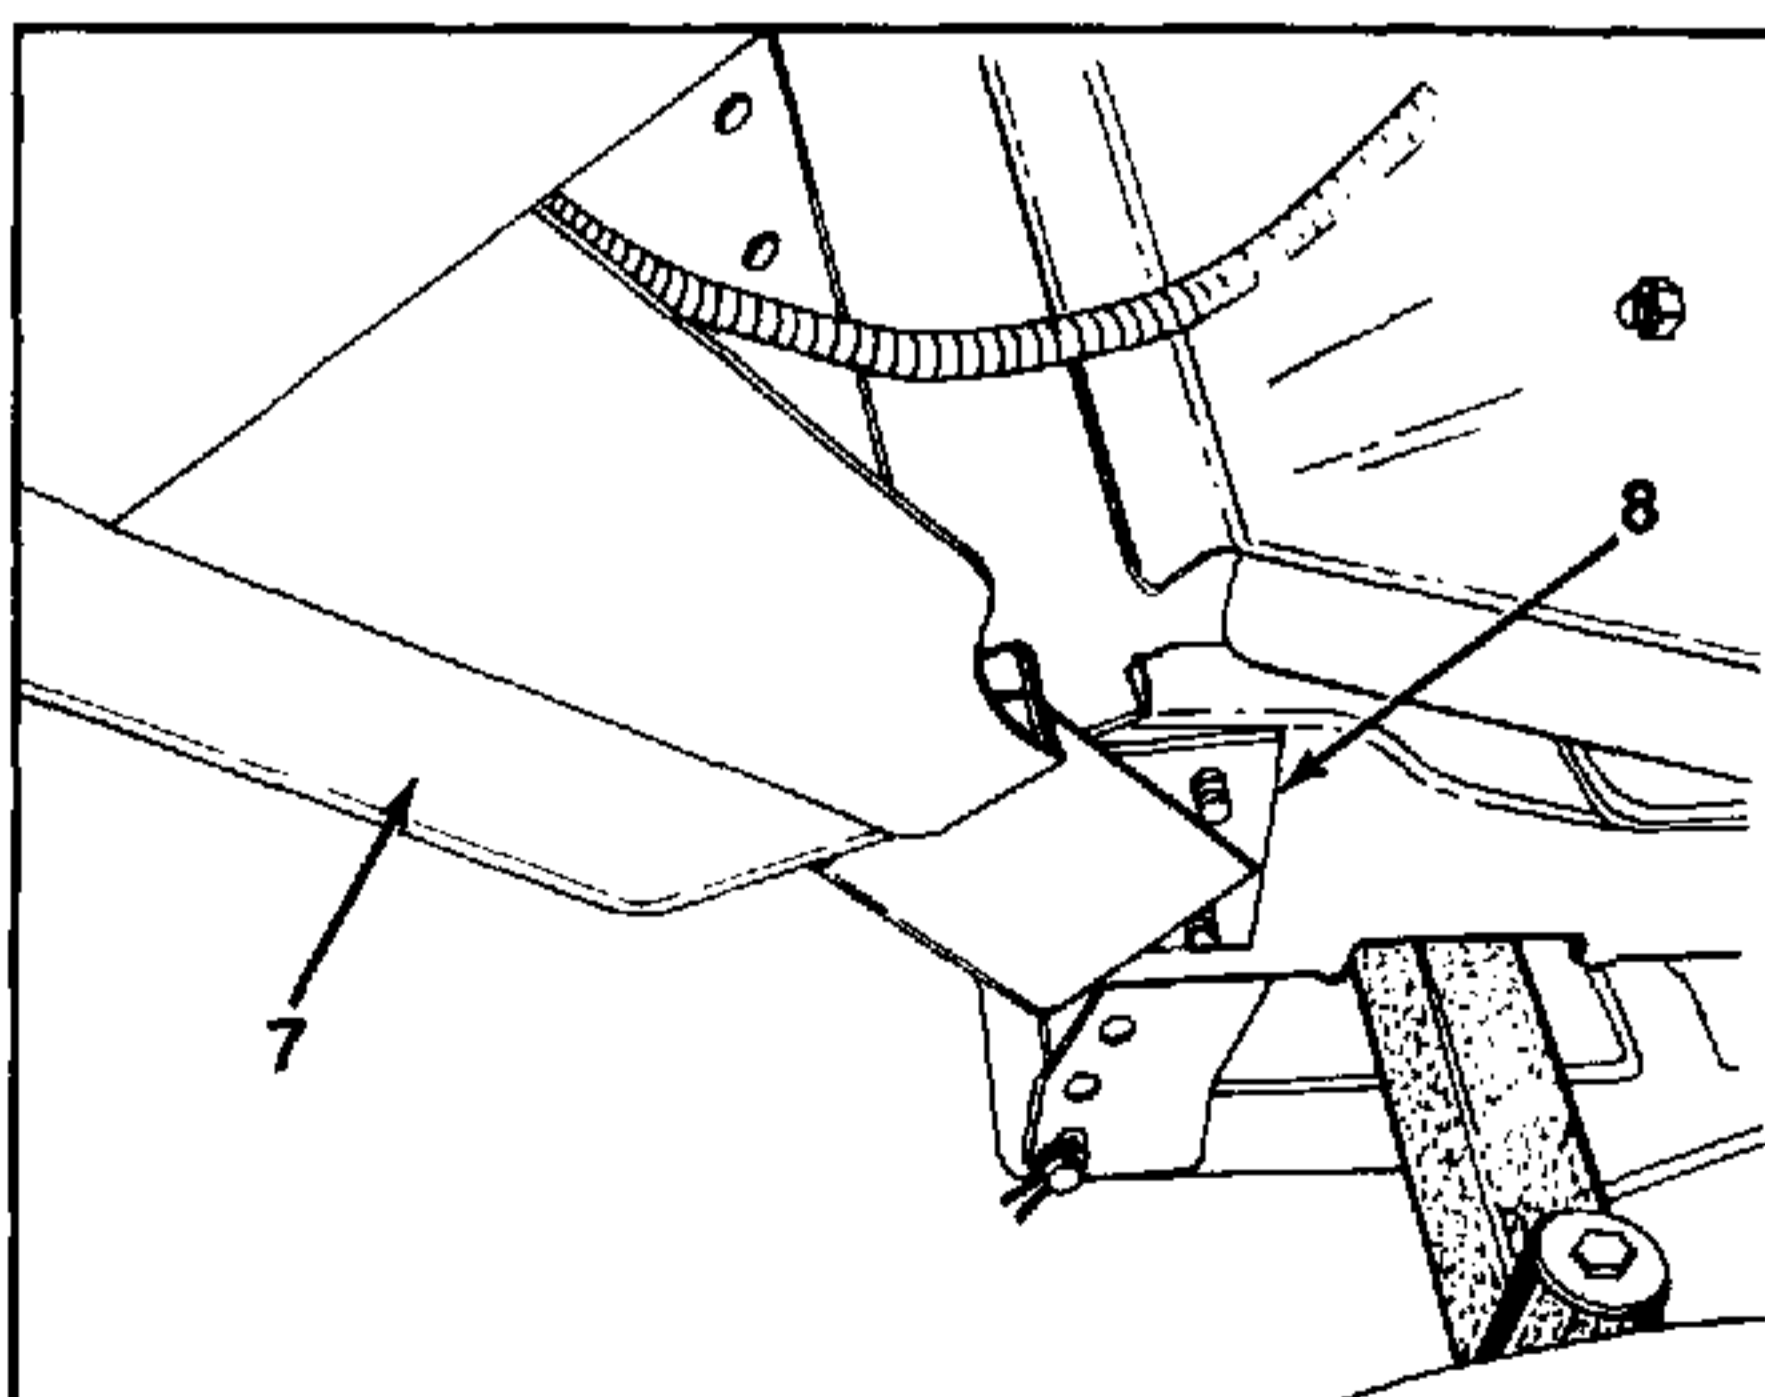

FIGURE 3.
6. Upon removal of extension spring, loosen hex bolts and belleville washers on each side of chassis. See figure 3. Remove one set of bolts and washers from one side only. This will allow you to pull the hood and grille off of the front pivot bracket.